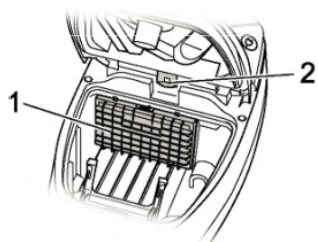

Fig.20
■ **Motor protection filter (Fig. 20/1)** prevents larger particles from destroying the motor in case the dust filter bag is defective.
■ **Hygienic exhaust filter (Fig. 20/2)** removes microscopic particles from the exhaust air stream.